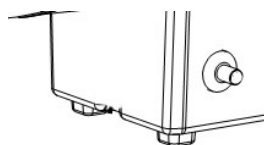

Figure.4
4.5.2. Check the starting electrode position (see Fig.4).